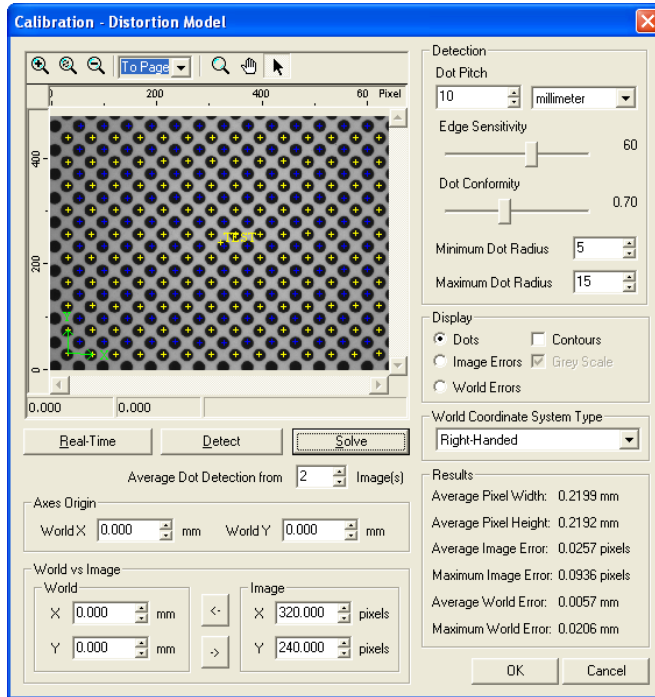

Figure 79 Distortion Model Calibration Dialog
5. Go to the **Calibration** sub-panel. Select **Distortion Model**. Click **Show Calibration Dialog**. The **Calibration - Distortion Model** dialog is displayed (see Figure 79).